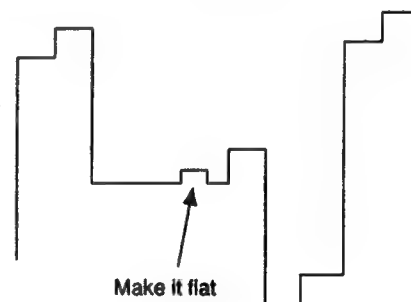

Fig. 5-17
- 5) Adjust **PHASE NTSC 358 NOR** so that the burst section of the output waveform will be straight. (Fig. 5-17)
- 2) Make adjustment in the same way as 10-1. shown above by means of **PHASE NTSC 443 ACC OFF**. (Fig. 5-17)